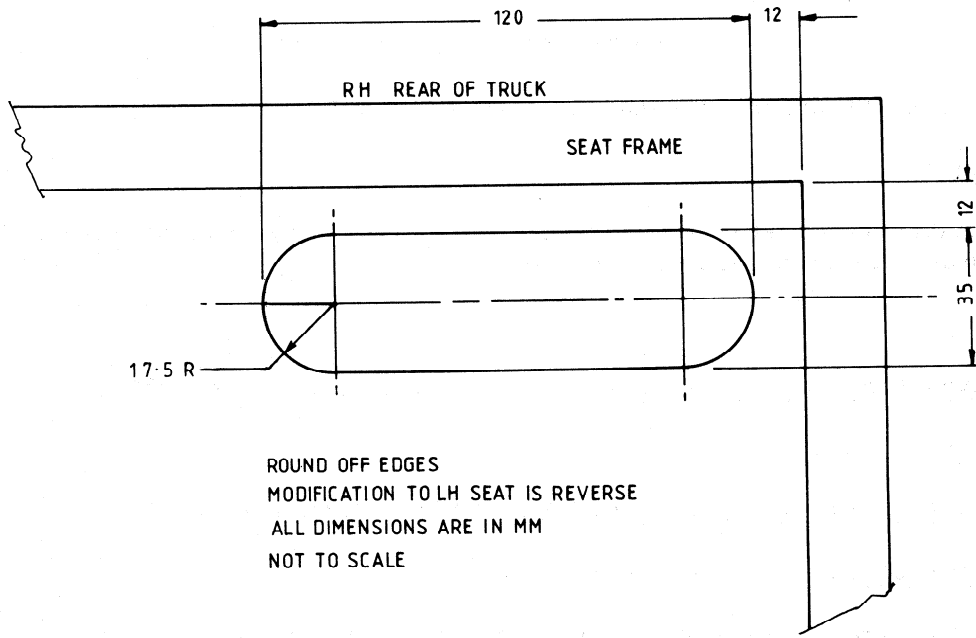

FIG 1 - GRAB HANDLE DETAILS
- a. Cut a section from the right and left rear seat panels as shown in Fig 1.